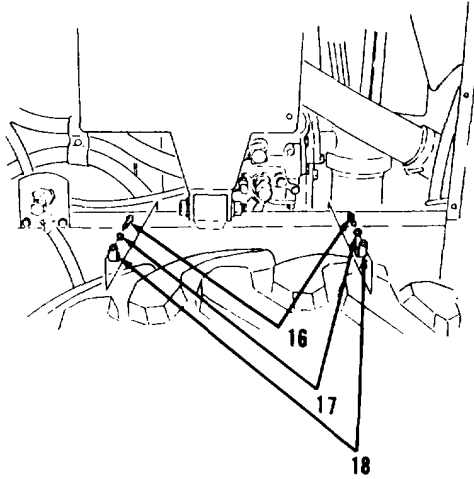

Figure 11-7.
- 12. Remove two bolts (16), washers (17) and clips (18, Figure 11-7) from left side of engine compartment.